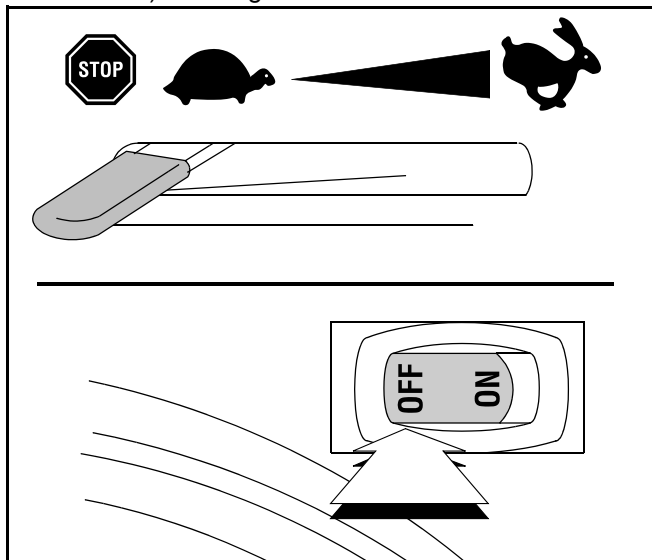

Figure 5
- Move throttle control lever to STOP position (Model CS4265) or push rocker switch to OFF (Model CS4210). See Figure 5.